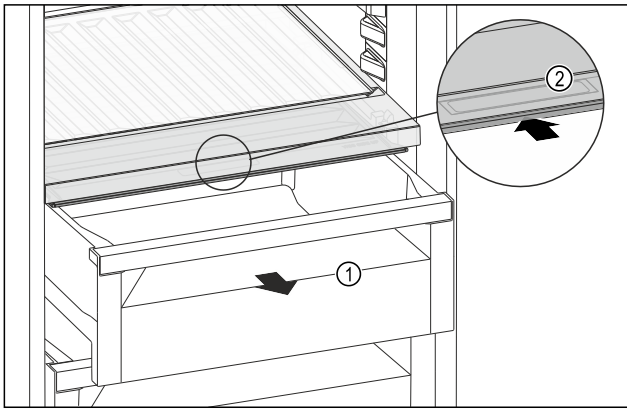

Fig. 108
- ▶ Pull out the drawer Fig. 108 (1).
- ▶ Grasp the recessed grip Fig. 108 (2) on the compartment lid and push the compartment lid backwards at the same time.